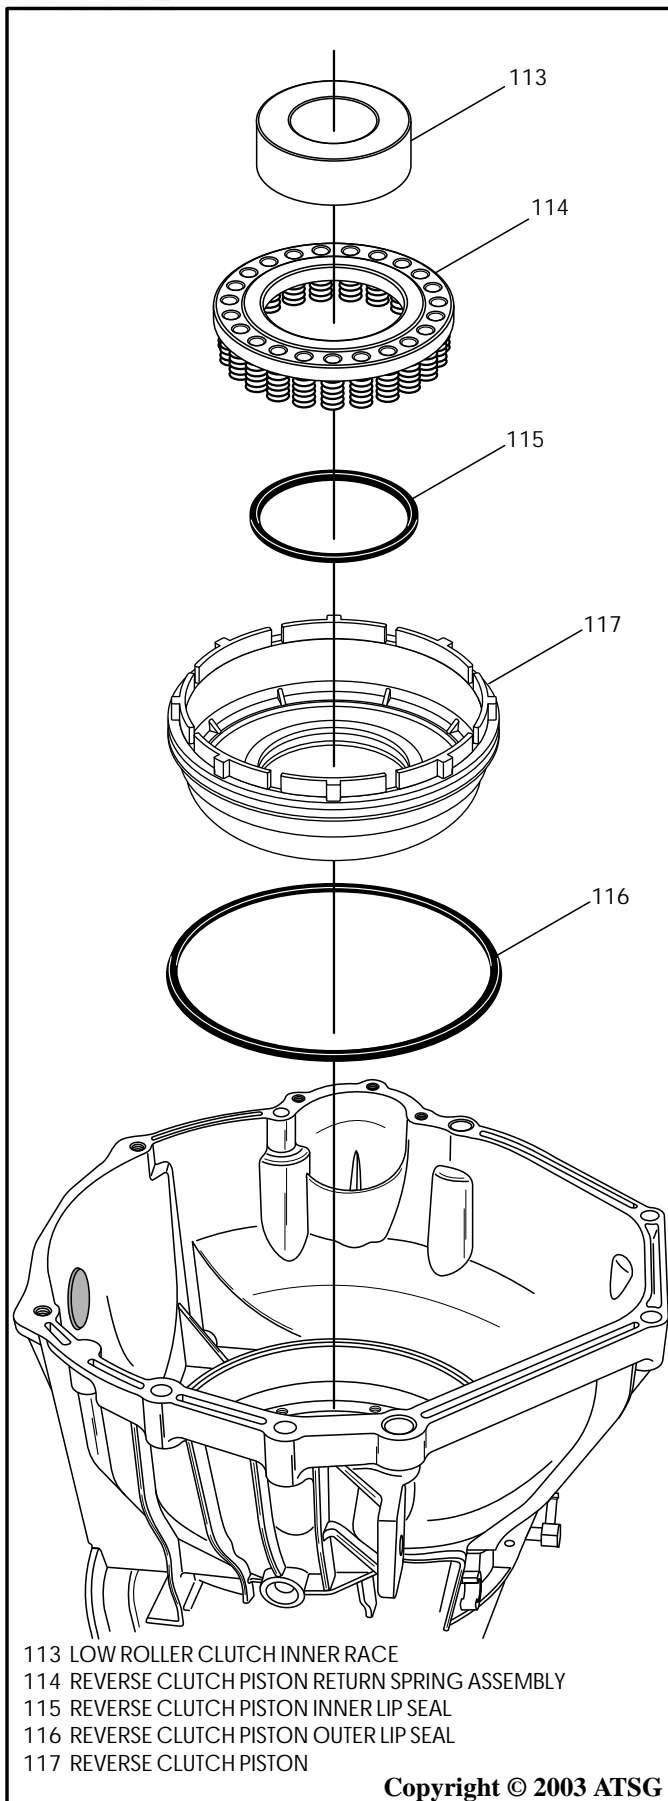

Figure 80
41. Rotate the transmission in fixture so the bell housing is facing up, as shown in Figure 80.
42. Remove the low roller clutch inner race, the reverse clutch piston return spring assembly, and reverse clutch piston (See Figure 80).
43. Remove and discard the reverse clutch piston inner and outer lip seals (See Figure 80).
1. Remove the inside detent lever retaining nut, using a crescent wrench to hold the external shift lever, to avoid damage to the inside detent spring (See Figure 80).